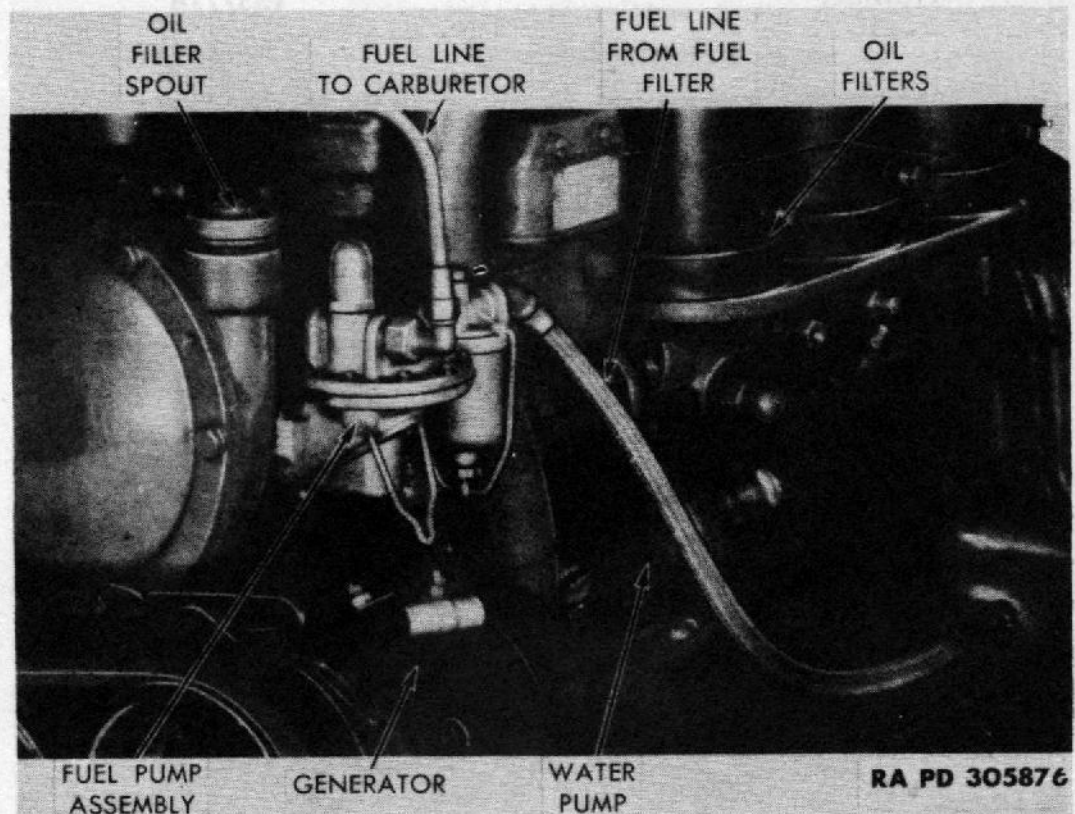

Figure 52—Fuel Pump Installed
i. Install Fuel Pump and Lines (fig. 52). Place fuel pump in position on air compressor drive housing, insert and tighten two cap screws. Place fuel line and clip in position on coil bracket at front of engine and secure with bolt, toothed lock washer, and nut. Connect and tighten coupling nut at fitting on upper front of fuel pump. Connect and tighten coupling nut at fitting on upper part of carburetor. Screw flexible fuel line elbow to rear of fuel pump. Connect and tighten coupling nut on the line at fitting on front of fuel filter on left front side rail.
valve system. It is mounted on the air compressor drive housing (front lower left side of the engine), and is driven through a connecting rod operating from an eccentric on the air compressor drive shaft. It is provided with a special hand lever (fig. 52) for pumping an initial supply of fuel to an empty carburetor.